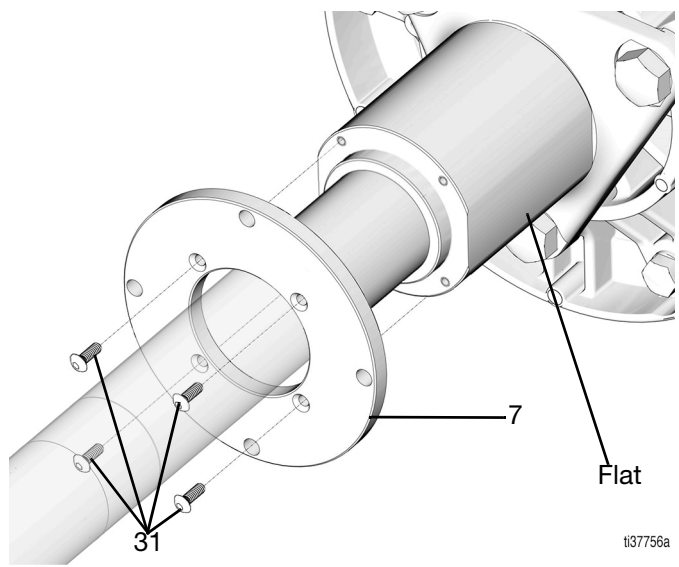

FIG. 5
7. Remove the four screws (31) holding the mounting flange (7) using 1/8 in. hex key (FIG. 5).
8. Remove the mounting flange (7), exposing the flats (FIG. 5).